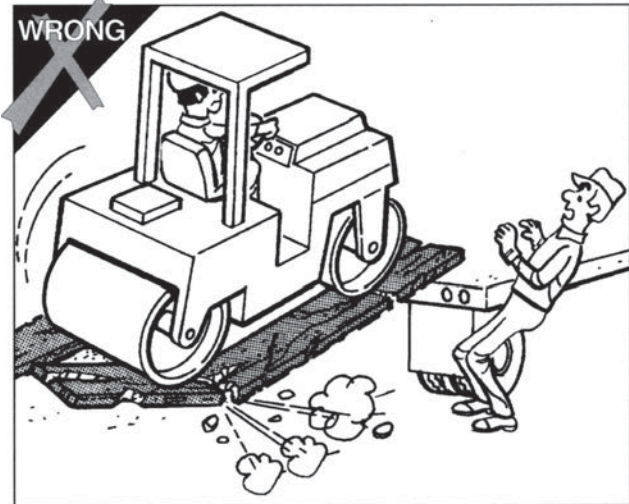

FIG. 27
- NEVER use ramps that are cracked, damaged, or of questionable strength. (FIG. 27)